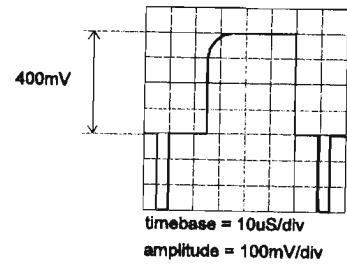

Figure 3
f) Measure VIBS (WK3:MP7) with respect to 0 V (WK4:MP1), trigger external on the mid-line WK5:MP1 and adjust the fixed gain to 400 mV_{top} with WK3:P5 (see Figure 3).